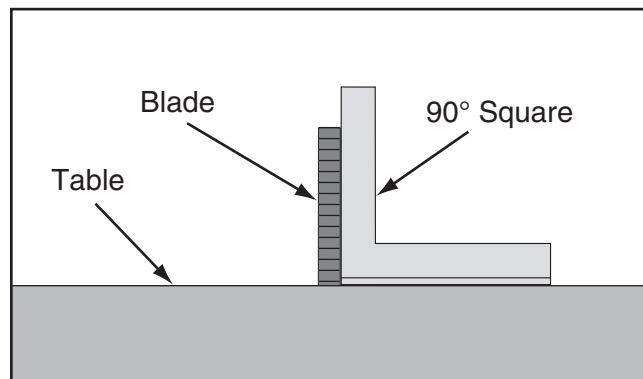

Figure 110. Checking blade at 90°.
3. Place a 90° square against the table and blade so it contacts the blade evenly from bottom to top, as shown in **Figure 110**. Make sure a blade tooth does not obstruct the placement of the square.